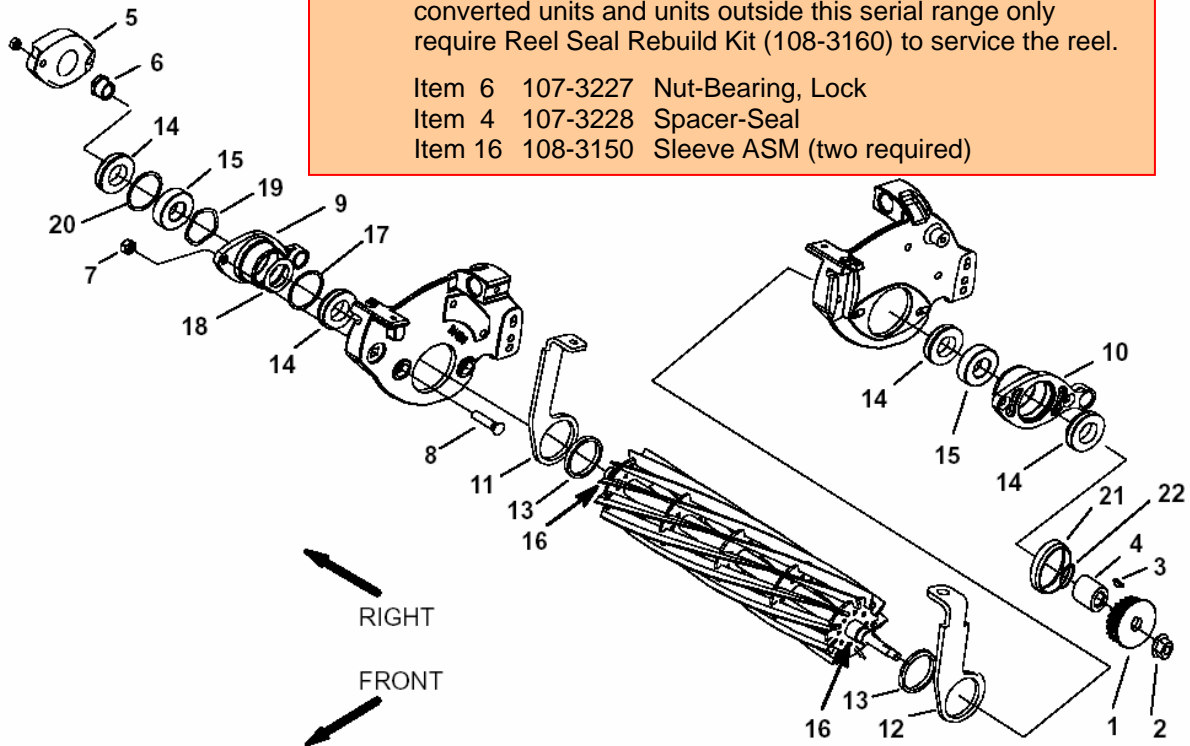

Figure 3
9. Remove the reel bearing lock nut from the right side of the reel (Fig. 3). The reel bearing lock nut has left hand threads.
10. Remove the two tapered nuts and plow bolts securing each reel bearing housing to the cutting unit side plates (Fig. 3).
11. Remove both the oil seals from each bearing housings (Fig. 3).
Note: If the reel bearings (Fig. 3) are worn or need replacement, refer to the Service Manual for bearing replacement instructions.
- Apply anti-seize lubricant to the bearing journals of the cutting reel (Fig. 3). Position the reel with the pitch arms and the bushings in the frame to accept the bearing housings. The reel shaft end with the keyway should be on the left side of the frame.
- Insert both the bearing housings (Fig. 3) through the frame onto the reel shaft.
- Apply anti-seize lubricant to the internal threads of the bearing lock nut (Fig. 3). Block the reel with a piece of wood to prevent it from turning. Install and tighten the bearing lock nut to the reel shaft.
20. Install the spacer in the left side reel bearing housing (Fig. 3). Mount the reel drive plate assembly to the side of cutting unit with two locknuts, capscrew, and lockwasher. Tighten the fasteners to secure the assembly.
21. Install the spacer and woodruff key to the reel shaft (Fig. 3). Apply anti-seize lubricant to the internal bore of the drive pulley and position the pulley onto the reel shaft. Install and tighten the flange nut that secures the pulley to the reel shaft.